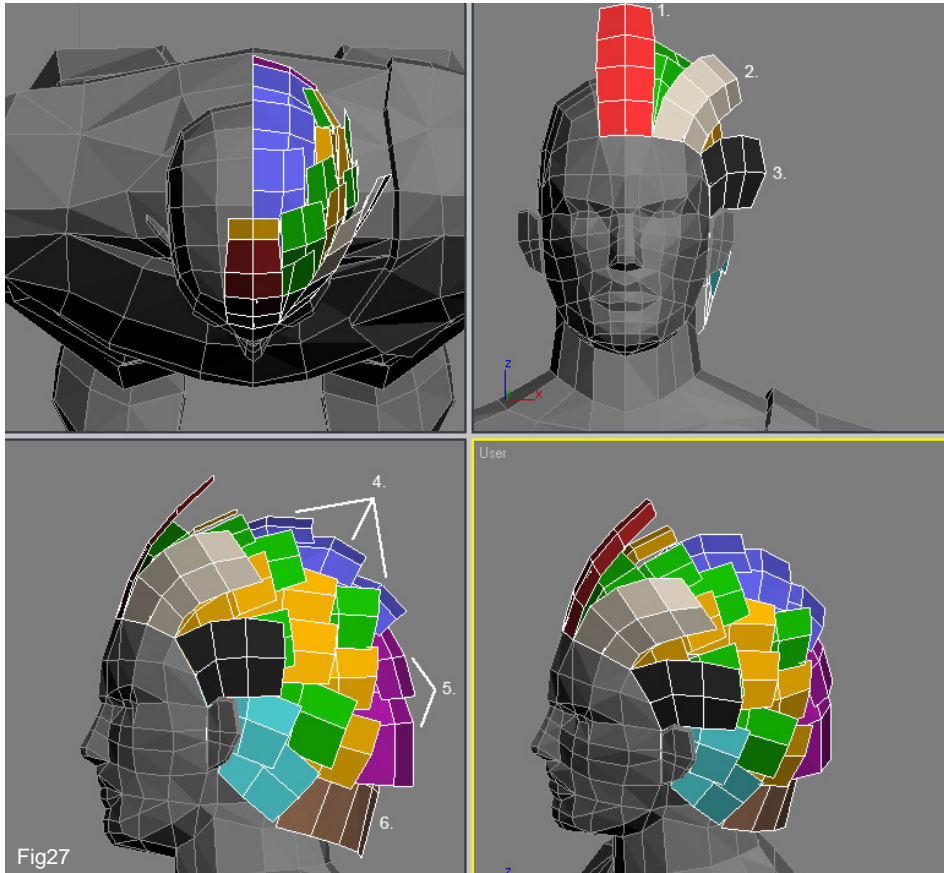

Fig27
27. These groupings are visible in Fig 27 and are colour co-ordinated to show how they have been organised. In the top right you can see that the front three poly's have been separately mapped (numbers 1-3). Along the top of the head there are three blue poly's so you would only map/unwrap one and then copy this twice, snapping the verts to line up exactly with the remaining groups. There will off course be a bit of stretching on the checkermap as each of the meshes varies slightly but nothing serious. When this is done delete the two redundant versions and then repeat this until you have completed the rest of the hair pieces.